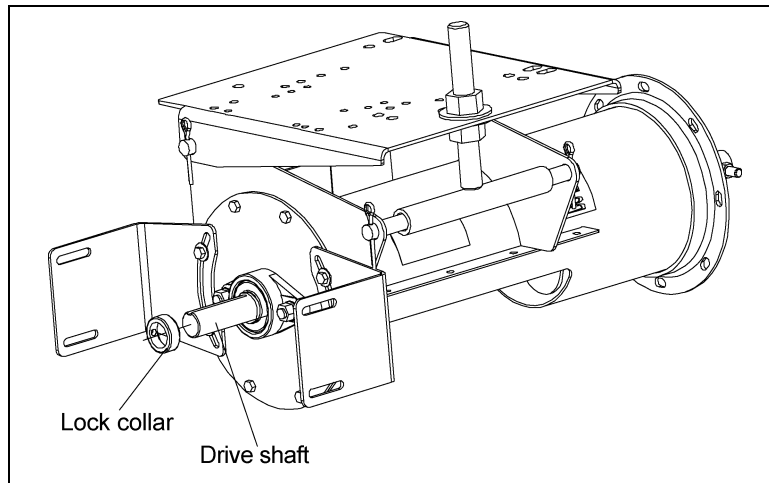

Figure 4H
1. Slide the lock collar over the drive shaft, positioning it against the bearing. Do not tighten the lock collar at this time as it will be tightened later in the assembly. (See Figure 4H.)